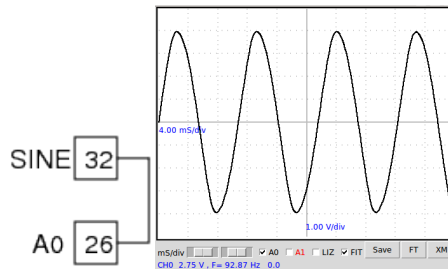

FIGURE 2.5 – AC voltage waveform from SINE
- The waveform is shown in the figure2.5. Enable the 'FIT' option to calculate the amplitude and frequency by fitting the data with the equation $V = V_0 \sin(2\pi ft + \theta)$, where V_0 is the amplitude and f is the frequency.